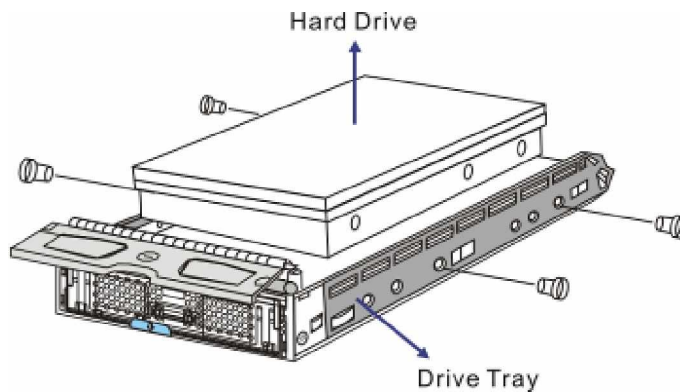

Figure 5-23: Removing the Hard Drive
-  **Step 5. Remove the four (4) retention screws** located on the sides of the drive tray (two on each side.) (See *Figure 5-23*)